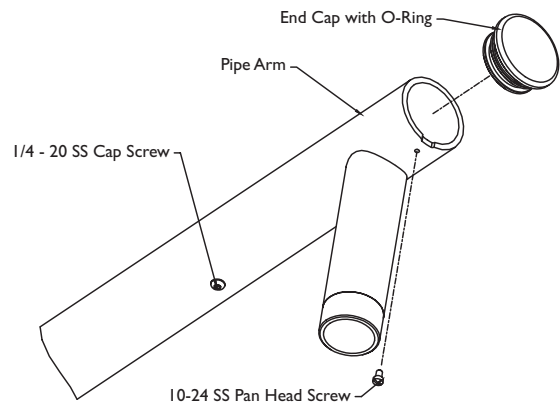

Figure 1: LTC 9230 with End Cap Removed
If additional stabilization of the Parapet Mount is required, it may be achieved using guy wires and a stainless steel eye bolt (not included). An attachment point for the eye bolt is provided at a threaded hole with 1/4"-20 threads. Remove the cap screw (see Figure 1) installed at the factory and replace it with a stainless steel eye bolt. To avoid too much tension in the guy wires, decrease the downward load on the Parapet Mount.
7. Feed all electrical and control cables through the pipe arm and out the bottom of the mounting bracket. This may be easier if the pipe arm end cap is removed (see Figure 1). (Note: the cables may be fed through the pipe arm just prior to step 6 if desired).